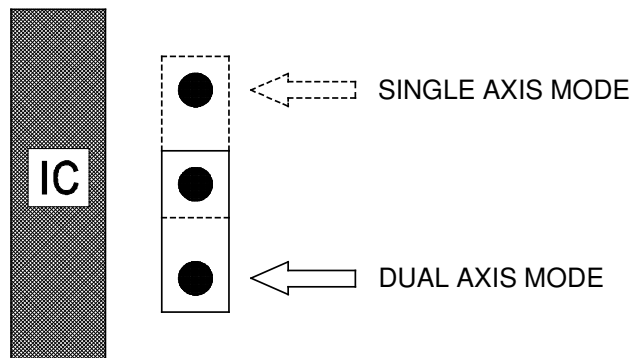

Figure 4
- STEP 2:** Remove the jumper next to the I.C. See figure 4. **NOTE:** If the controller has a narrow band receiver board it will need to be unfastened and moved aside (NOT DISCONNECTED) to allow access to the jumper next to the I.C.
- STEP 6:** Replace the jumper as shown in figure 4.
- STEP 9:** Replace the jumper as shown in figure 4.